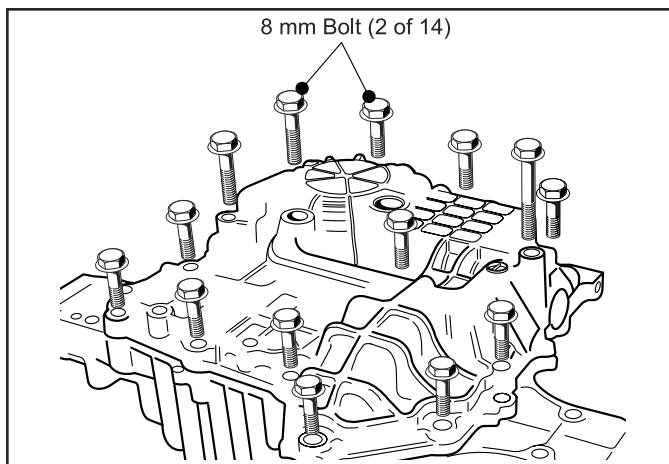

Fig. 5, Upper and Lower Housing Removal
2. Remove the (14) bolts (8 mm) securing the Transaxle's Upper and Lower Cases. Lift the Lower Case away from the Upper Case, exposing the internal parts. (Fig. 5)